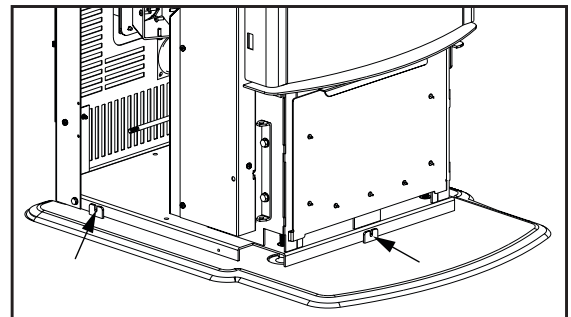

Figure 6: Mini Bern Hearth Pad in Place.
5. Loosen the three (3) T-20 screws from the base of the unit (see Figure 6).
7. Align the three (3) tabs on the hearth pad to the three (3) screws on the unit (see Figure 6), slide together, and tighten the T-20 screws.